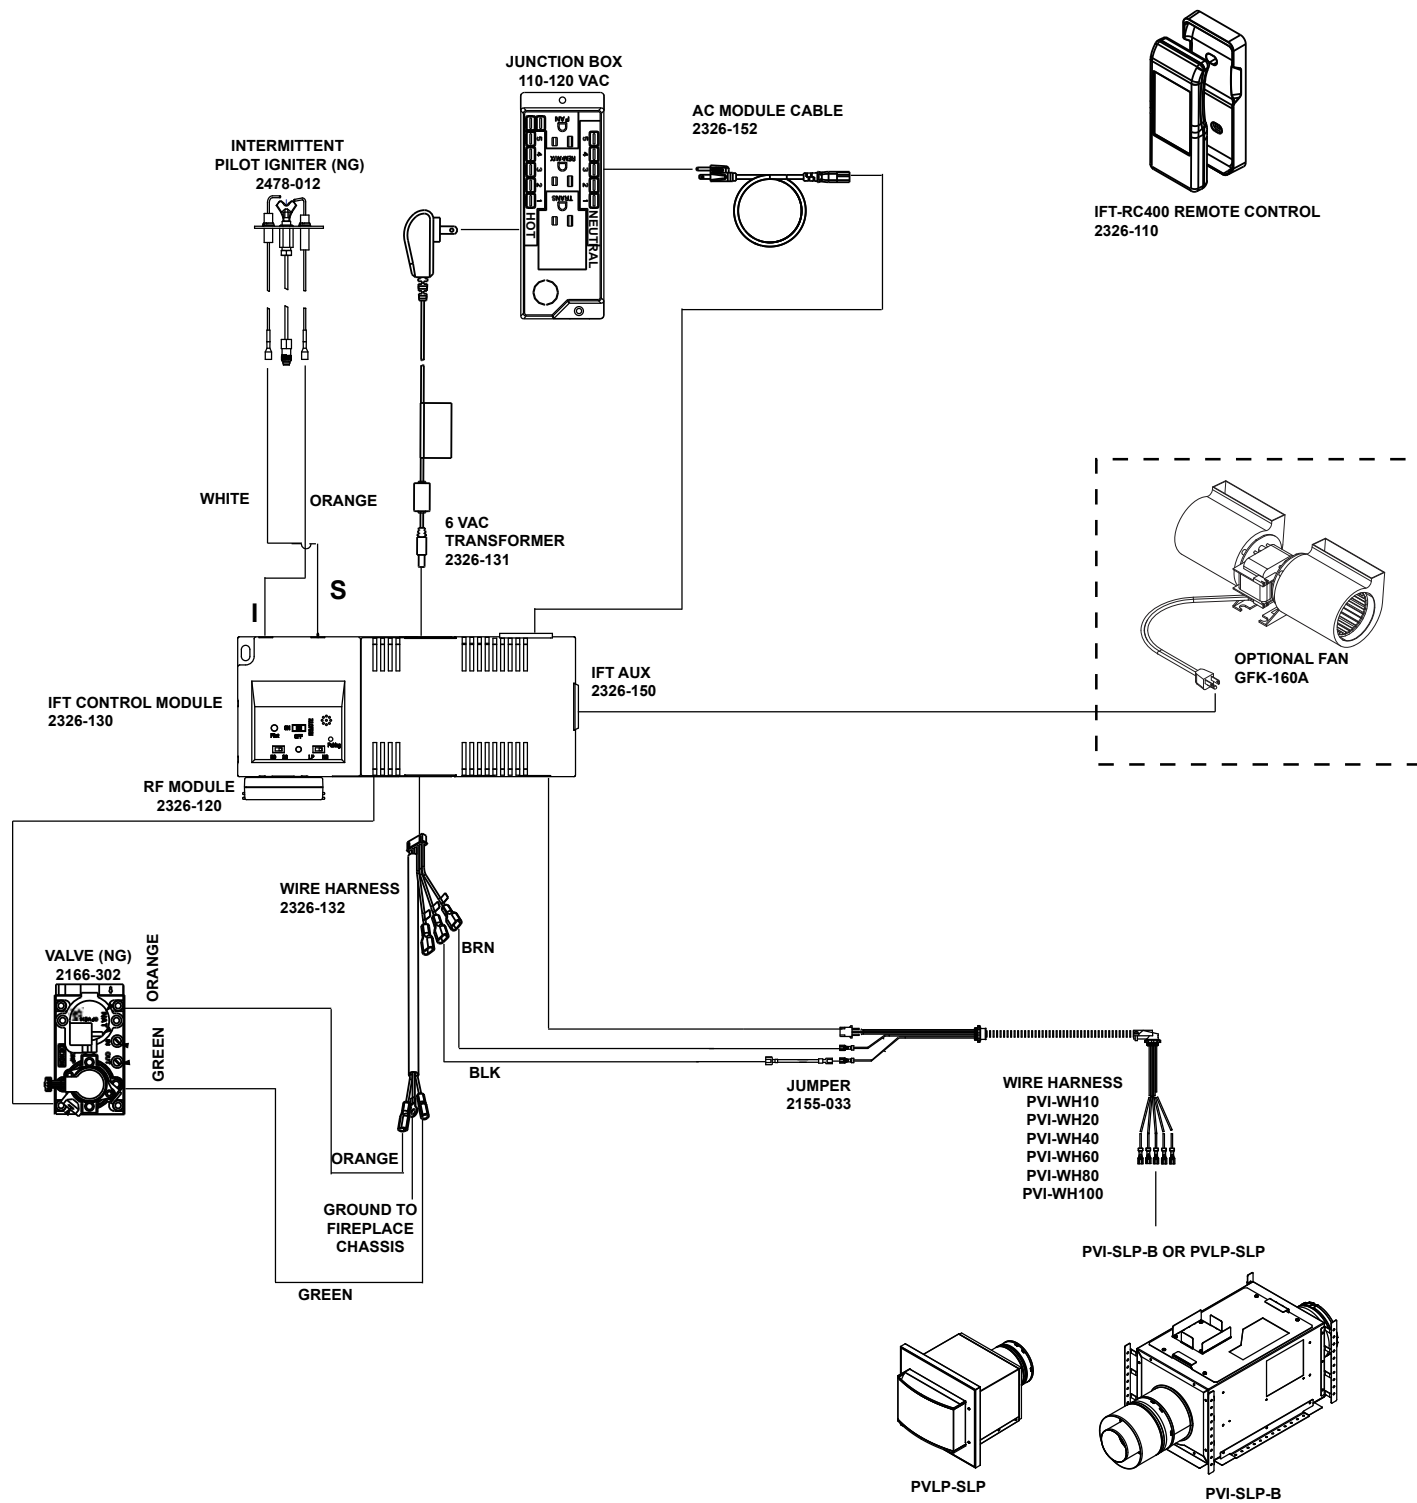

Figure 8.3 IntelliFire™ Touch Wiring With Optional Power Vent
1. Wire the fan as shown in Figure 8.3.